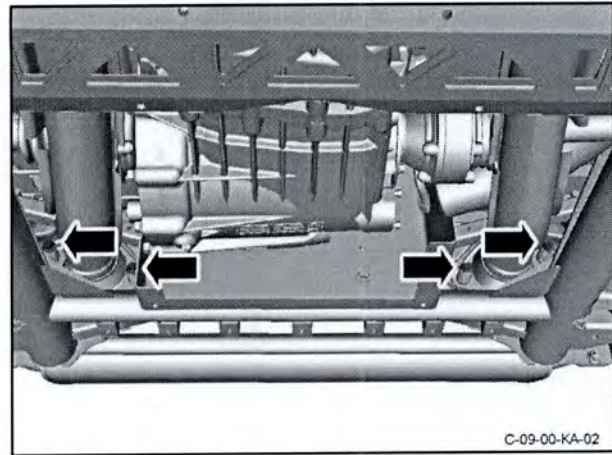

Figure 66
- 129. Install the four bolts and four springs that attach the exhaust centre pipe to the muffler and bypass valve assembly (refer to Figure 66). Torque the four bolts to 30 Nm.